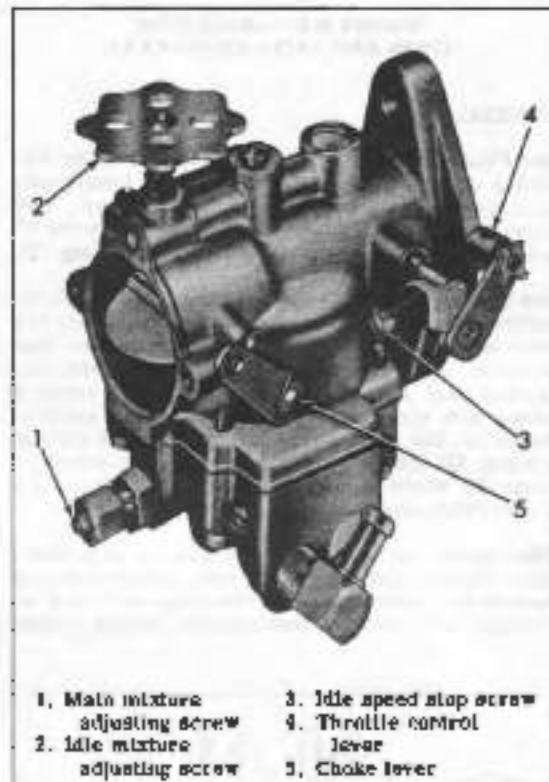

Figure 3F-13. Carburetor Adjustment
If necessary, remove Welch plug (45), and check idle mixture discharge ports (Fig. 3F-12) to be certain they are not wholly or partially plugged. Then tightly install new Welch plug.